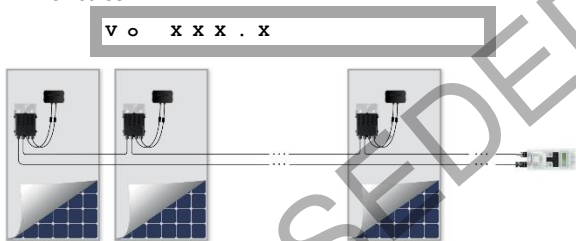

Figure 2: SolarEdge Key connection
- 3 Connect a string of power optimizers to the SolarEdge Key (see Figure 2).
- 3** Connect a string of power optimizers to the SolarEdge Key (see Figure 2).